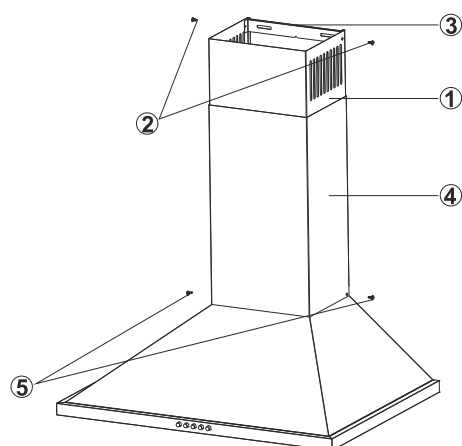

Fig. 13: MOUNTING SHEET FLUES
- Center flue connection sheet (3) on the hood, hold it under the cover or measure and mark C, D points (Fig. 13).
- Drill C, D points with Ø6mm drill and place Ø6mm plastic pins. Place flue connection sheet on the surface where 3.9x22 screws will be installed.(Fig. 13)
- Pull out the internal flue (1) using screws (2) and screw it on flue connection sheet on the right and left (3).(Fig. 13)
- Mount the external flue (4) on hood body using 2 screws (5). (Fig. 13)